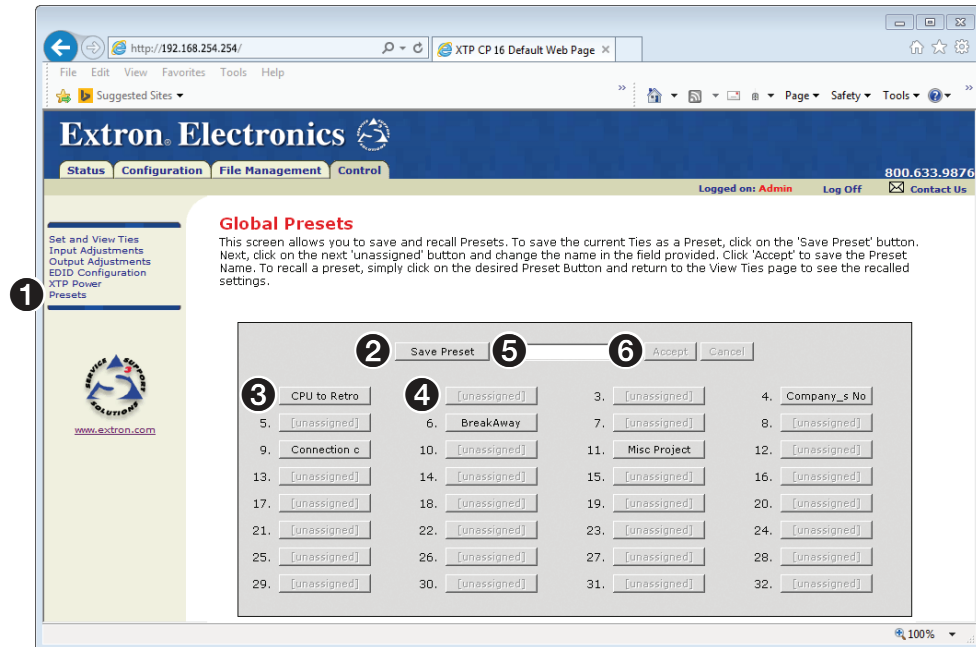

Figure 73. Global Presets Page
You can save and recall global presets from the **Global Presets** page. Access the **Global Presets** page by clicking the **Presets** link (see figure 73, ❶) on the left of the **Set** and **View Ties**, **Input Adjustments**, **Output Adjustments**, **EDID Configuration**, or **XTP Power** page.